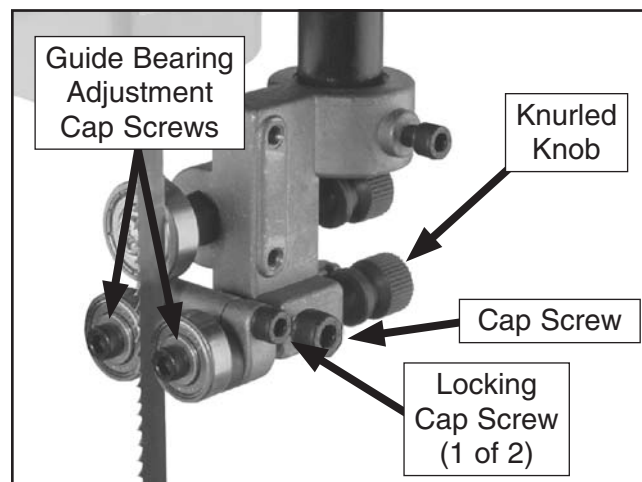

Figure 33. Blade guide bearing controls.
2. Familiarize yourself with the blade guide controls shown in **Figure 33**.